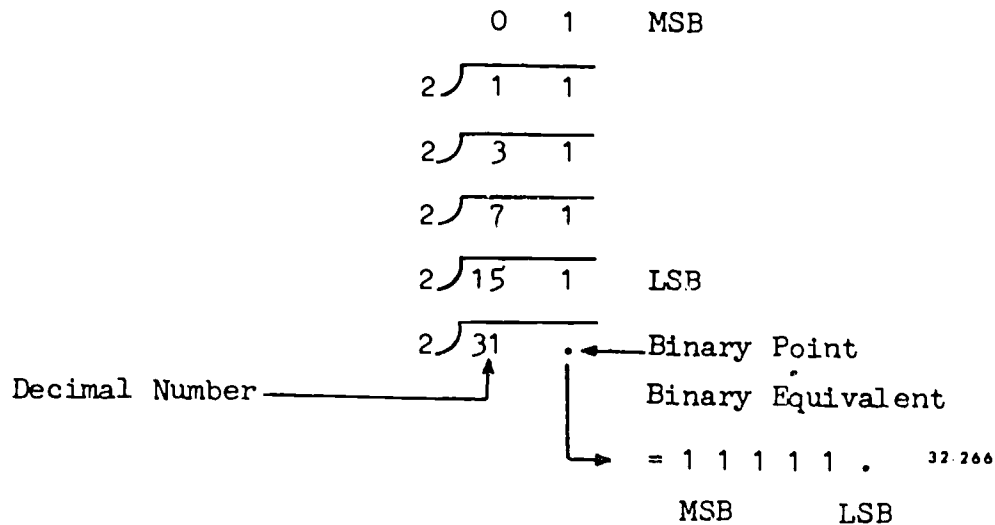

Figure 2-10. Division method—decimal-to-binary conversion.
Division method (whole numbers). This is a versatile, easily used method, which works well on a decimal whole number of any size. It merely involves repeatedly dividing the decimal number by the radix (2) of the binary system, according to the following three rules for the division method of conversion (see fig. 2-10).
(1) Divide the decimal number by 2. The remainder (0 or 1 when dividing by 2) becomes the LSB of the binary number.
(2) Divide the quotient of the first division by 2. The remainder becomes the next bit in the binary number.
(3) Continue to divide by 2 until the final quotient is 0. The remainder of each division step will become a bit in the binary number.